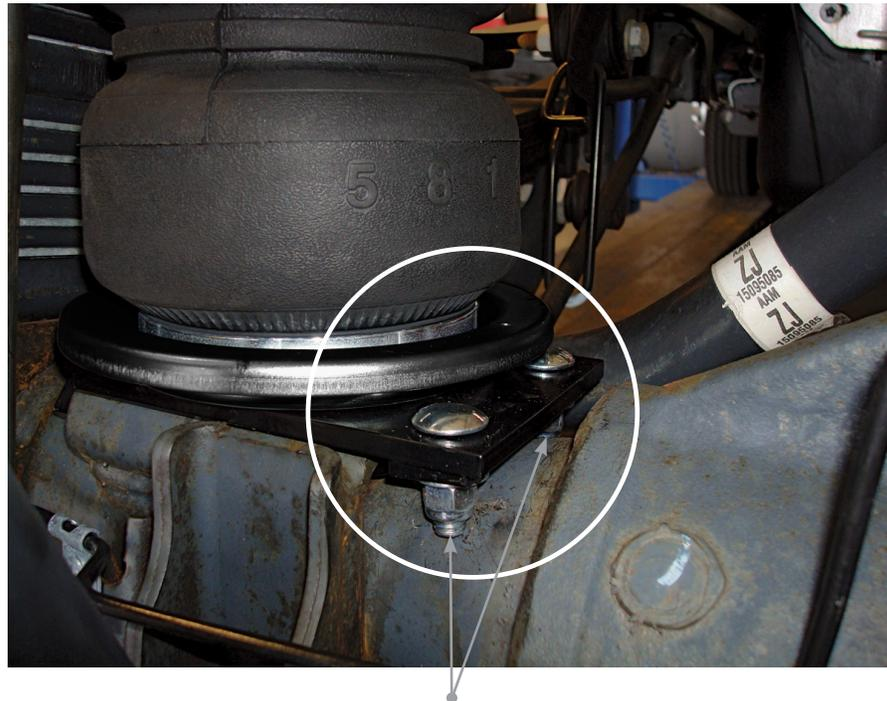

fig. 6
3. While setting the lower bracket into position, insert the lower bracket carriage bolts into the holes in the clamp (E). Cap with two 3/8” flat washers (J) and nylon lock nuts (P) and tighten both nuts evenly until tight (Fig. 6).